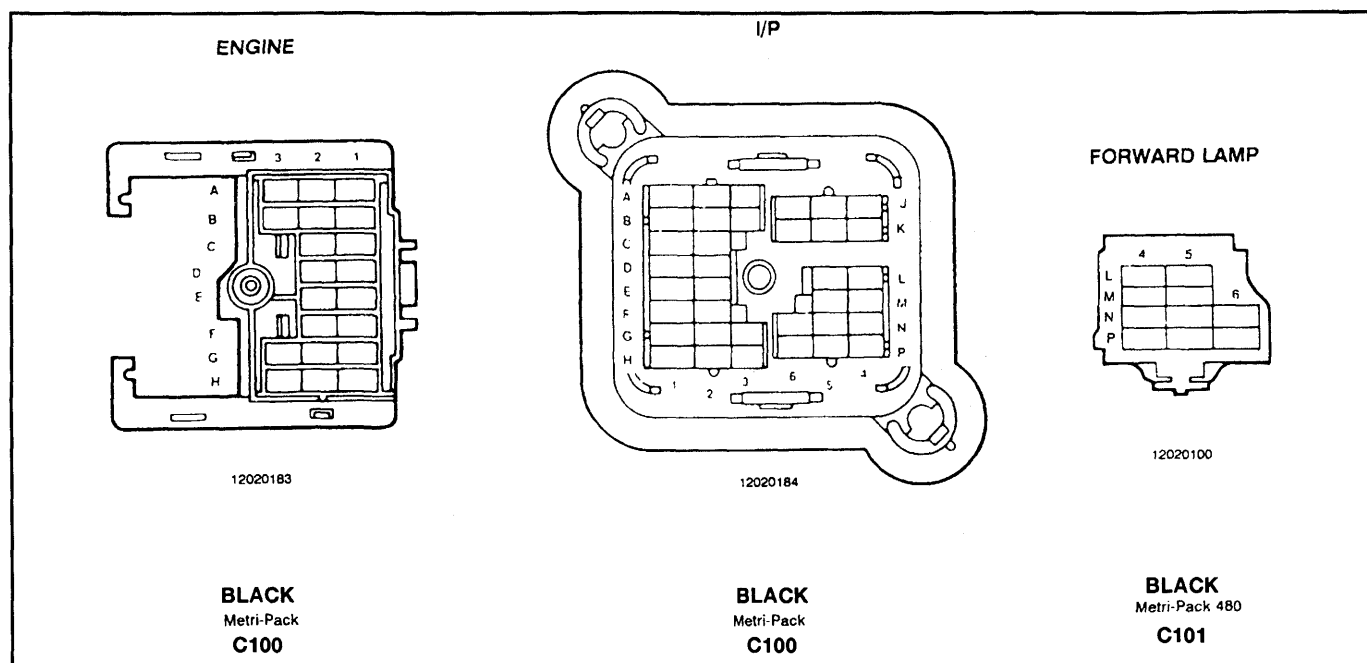

Figure 10 — Typical Connector Faces
**CONNECTOR FACES** – Connector faces are shown to aid in the identification of connectors and cavities within a connector. They are shown from the mating end unless otherwise marked. Each connector has its own unique number for reference to component locater and diagnosis charts. Part numbers are also provided to save time when ordering replacement parts. Figure 10 shows connector faces.